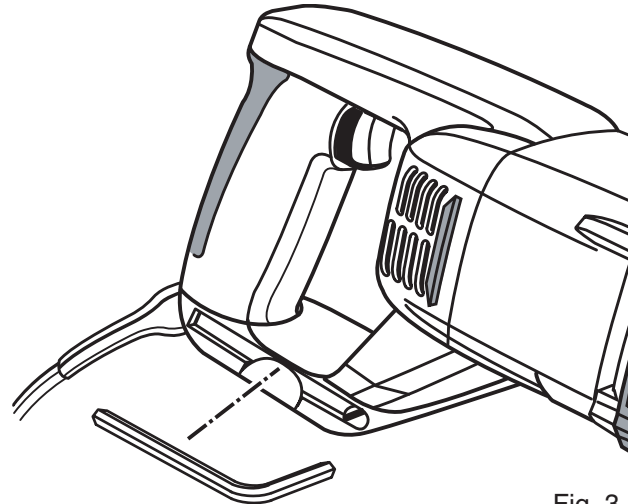

Fig. 3
- Remove hex key from the hex key storage location in the handle. See Figure 3.
- See Figure 3.